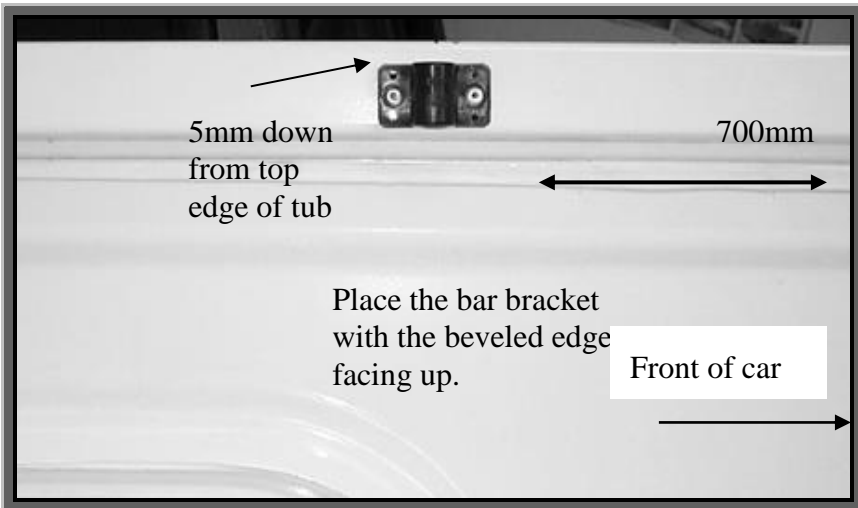

Figure 2.
5. To fit bar brackets measure 700mm back from the inside front edge at the top of the tub and place them as shown in Figure 2. (5mm from top edge of tub). Drill and rivet using two large rivets for each Bar Bracket. Install support bar.